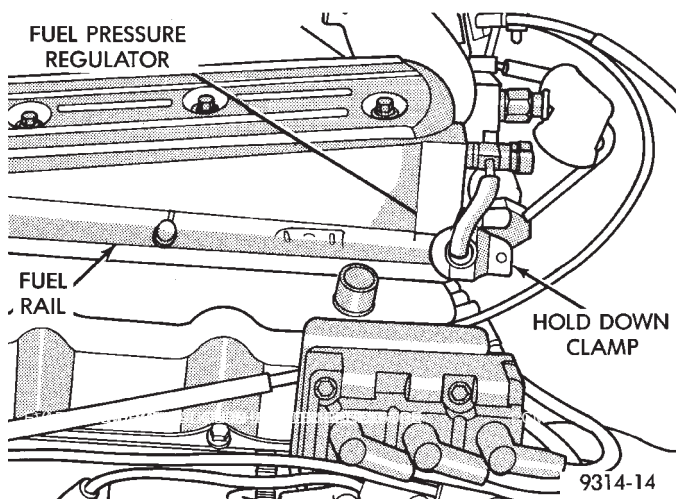
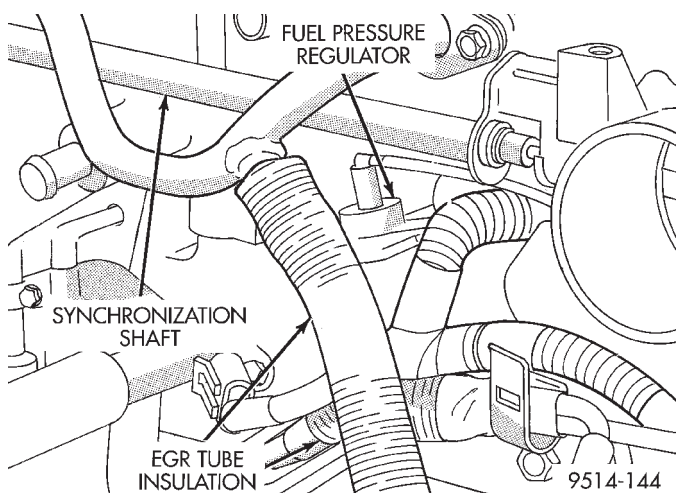

Fig. 44 Fuel Pressure Regulator—3.3L Engine
Fig. 45 Fuel Pressure Regulator—3.5L Engine
(11) Ensure the vacuum hose is attached to the fuel pressure regulator (Fig. 44) or (Fig. 45). Check the hose for cracks or leaks.